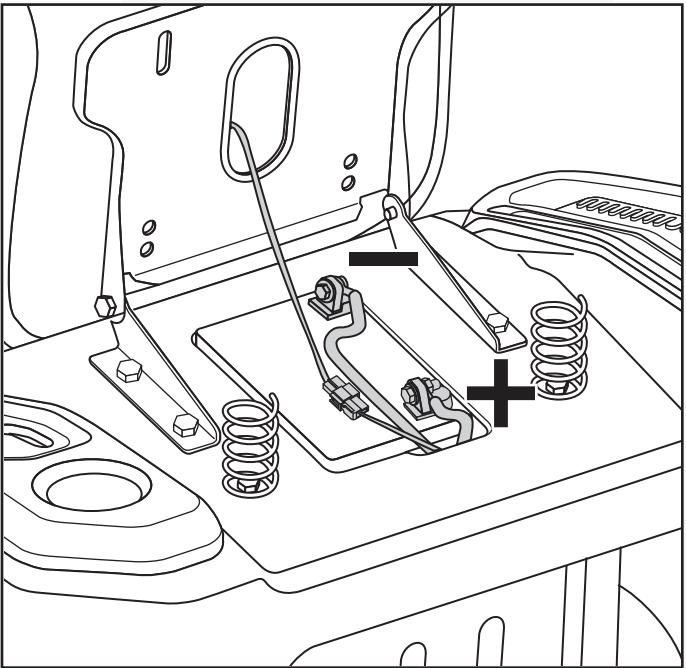

Fig. 34
2. Disconnect the **NEGATIVE** (-) cables from the battery first. (Fig. 34)